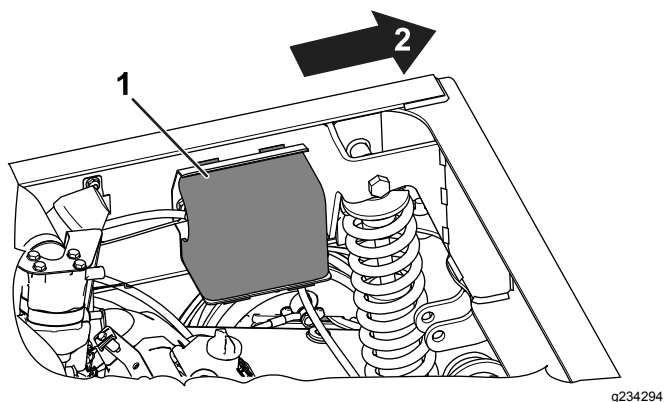

Figure 4
1. Remove the cover from start/run solenoid (Figure 4).